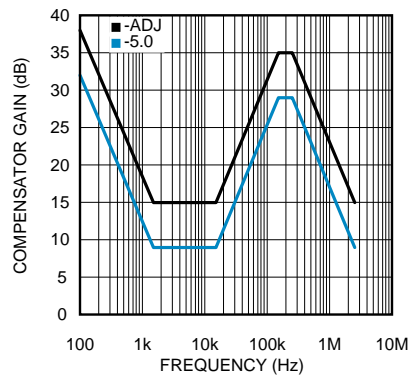

Figure 15. Compensator Gain
The complete transfer function for the regulator loop is found by combining the compensation and power stage transfer functions. The LM22671 has internal type III loop compensation, as detailed in Figure 15. This is the approximate "straight line" function from the FB pin to the input of the PWM modulator. The power stage transfer function consists of a dc gain and a second order pole created by the inductor and output capacitor(s). Due to the input voltage feedforward employed in the LM22671, the power stage dc gain is fixed at 20 dB. The second order pole is characterized by its resonant frequency and its quality factor (Q). For a first pass design, the product of inductance and output capacitance should conform to Equation 4.